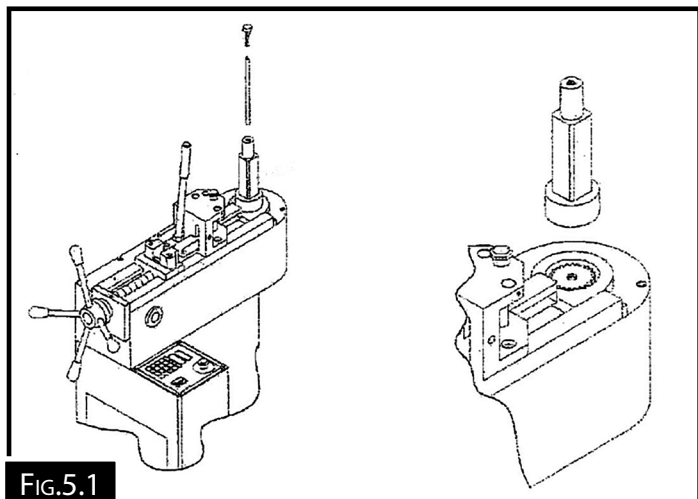

Fig.5.1
2. Insert the hex. key supplied with the machine into the outlet arbor and unscrew the bolt (M14x45) holding the arbor. (Fig.5.1)